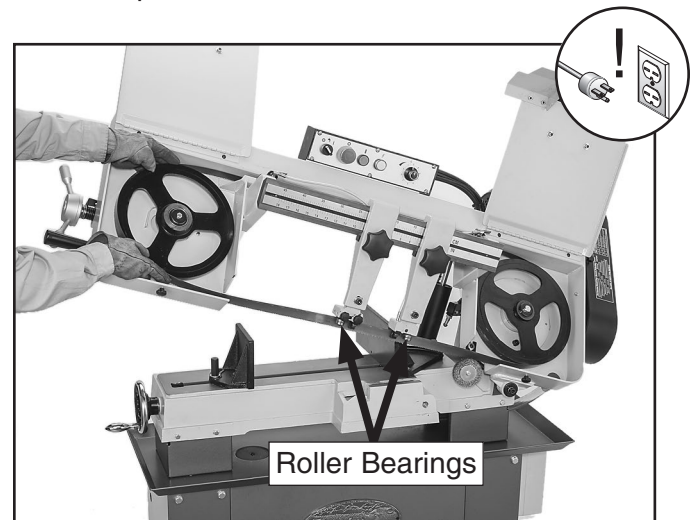

Figure 21. Installing new blade.
7. Install new blade into front and rear blade guide roller bearings, as shown in **Figure 21**, then position around each wheel.